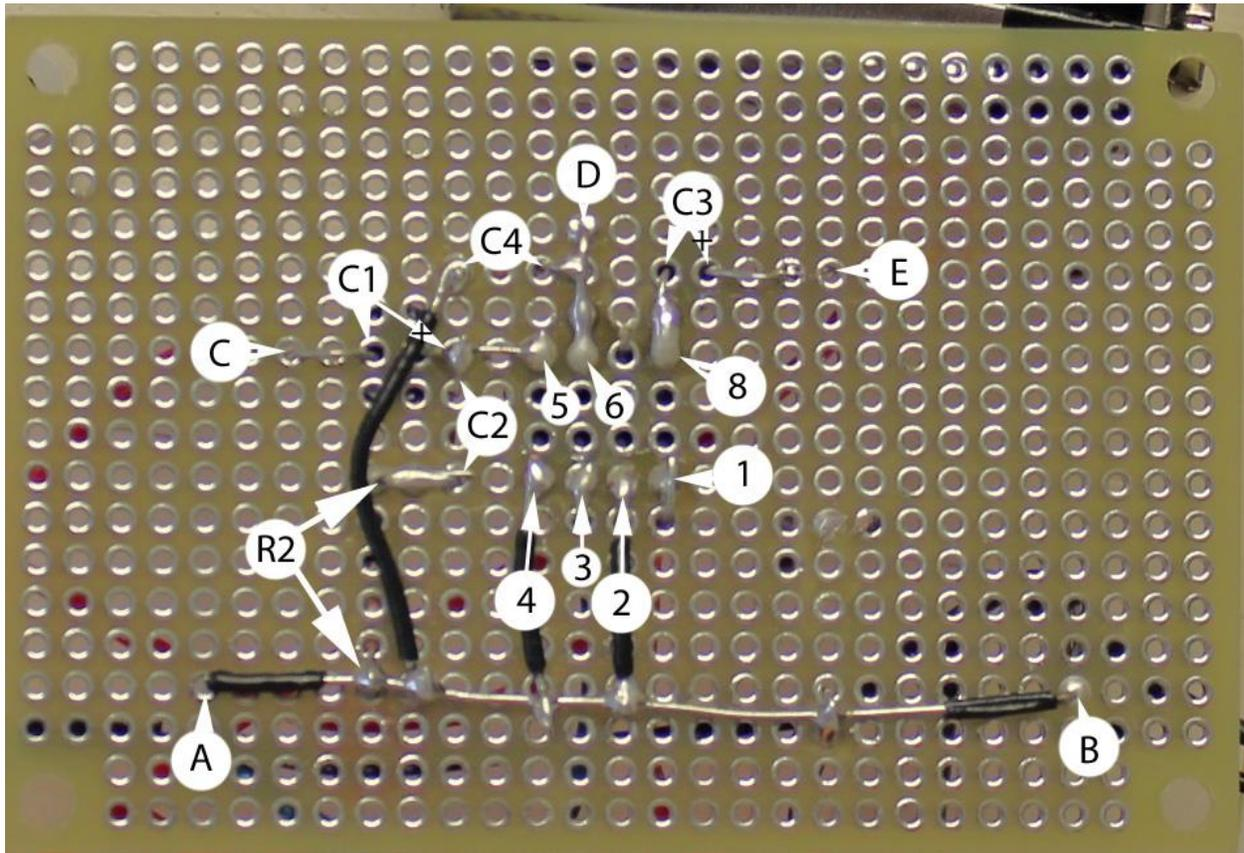
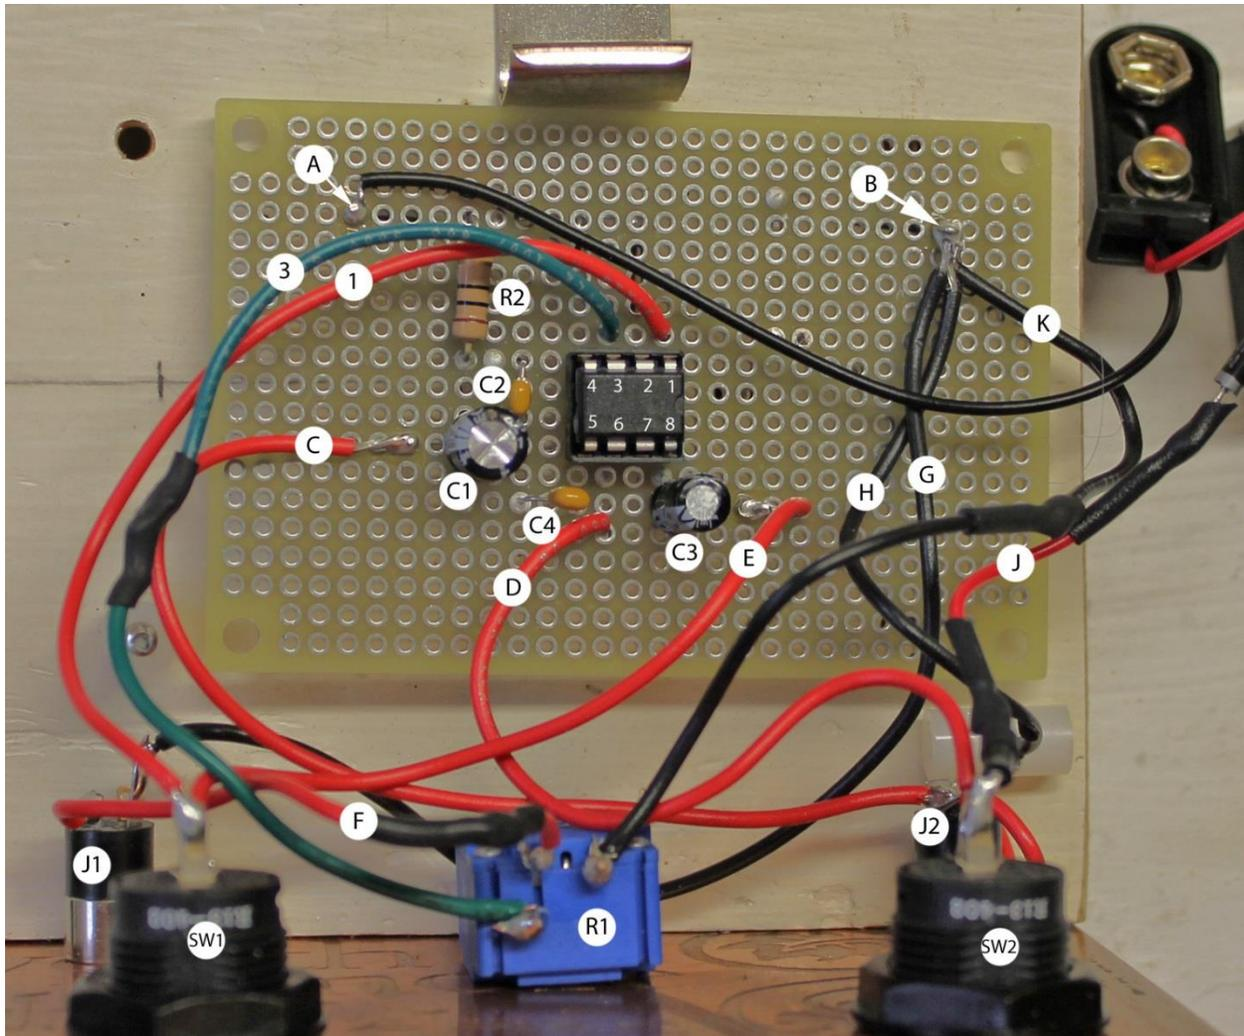

Figure 1 Bottom side of circuit board
Figure 2 Top side of circuit board
The circuit board you will be using is one half inch less in width than the board in Figures 1 and 2, but the same height. Figure 1 is a photo of the bottom side of the completed circuit board. The 8 pin IC socket is positioned in the center of the board with pins 1 and 8 on the right side and pins 4 and 5 on the left side. The top edge of the board faces toward the front of the amplifier when assembled. If you flip the board over by placing the top edge at the bottom, you would see the top of the board as seen in Figure 2. Comparing the two views, each component will be on the same side of the board. For example, capacitor C1 is on the left half of the board in both Figure 1 and Figure 2. However, a component positioned somewhere on the top half of the board in the bottom view will be positioned on the bottom half in the top view. And a component positioned somewhere on the bottom half of the board in the bottom view will be positioned in the top half in the top view. For example, capacitor C4 is on the top half in Figure 1 and on the bottom half in Figure 2. While you can't see the components from the bottom view, you can see their wires. The labels for the components in Figure 1 have arrows pointing to the wires of the components. For components with polarity, C1 and C3, the arrow pointing to the positive wire is labeled with a positive sign (+).
1. Insert the 8 pin IC socket into the center of the board as seen in Figure 2. Figure 2 also shows the IC chip (LM386) inserted in the socket, but you won't insert the chip until you are finished assembling the circuit board. The notch of the socket should be facing toward the right (pins 1 and 8 are on the right side). While holding the socket firmly on the board, turn the board over and bend the pins outward with a small screw driver to affix the socket to the board (to keep it from falling off).
3. Bend the bare ends of the wire you just prepared and insert the ends through the board from the bottom side (see points A and B in Figure 1). This wire will serve as the negative power bus. The short pieces of insulation are there to remind you that this wire is the negative bus. Notice that most of this wire is bare on the bottom side, so that you can make connections to it. The ends of the wire protrude through the board to the top side. Later, you will connect point A on
the top side to the negative wire of the battery and at point B you will connect three wires for additional negative bus connections (see Figure 2).
4. Prepare black wires (solid, 22 gauge) and connect from the negative power bus to pins 2 and 4 of the IC socket as seen in Figure 1.
5. Cut a 4 inch piece of red wire (stranded, 22 gauge). Strip off about 3/8 inch of insulation from one end. Twist the strands of the bare end and lightly coat with solder to prevent fraying (too much solder will make the wire too large to fit through a board hole). This will be the wire labeled "D" in Figure 2. Insert the stripped end of the wire through the top of the board in the position seen in Figure 2. Turn the board over and bend the bare end of wire "D" over so that it touches pin 6 of the IC socket. Trim any excess wire and solder.
6. Insert capacitor C4 through the top of the board as seen in Figure 2. Turn the board over. Bend the C4 wire closest to wire "D" so that it touches wire "D". Trim any excess and solder the wire of C4 to wire "D".
8. Insert capacitor C1 through the top of the board as seen in Figure 2. The negative wire should be to the left. Turn the board over. Bend the positive wire over to connect with pin 5 of the IC socket (the positive wire is labeled with a [+] in Figure 1). Trim any excess wire and solder the positive wire of C1 to pin 5.
10. Cut a 5 1/4 inch piece of red wire (stranded, 22 gauge). This will be the wire labeled "C" in Figure 2. Strip about 1/4 inch of insulation off one end of the wire and twist the strands to keep them together. Bend the wire around the end of the negative wire of capacitor C1 on the top side of the board as seen in Figure 2 and solder in place.
11. Insert capacitor C2 through the top of the board as seen in Figure 2. Turn the board over. Connect the top wire of C2 (Figure 1) to the wire that connects to pin 5 of the IC socket and solder.
12. Bend the other wire of C2 over to the left (the one closer to the bottom of the board in Figure 1).
13. Insert resistor R2 into the board as seen in Figure 2. Turn the board over. Bend the top wire of R2 over to the right to connect with the unsoldered wire of C2 and then solder R2 to C2.
14. Solder the free end of R2 to the negative power bus as seen in Figure 1.
15. Insert the capacitor C3 through the top of the board as seen in Figure 2. The negative wire should be toward the left. Turn the board over. Bend the negative wire over to touch pin 8 of the IC socket. Trim any excess wire and solder the negative wire of C3 to pin 8 (Figure 1).
16. Bend the positive wire of C3 into a U-shape and insert it back into the board so that its end is now on the top side of the board (point E in Figure 1).
17. Cut a 4 inch piece of red wire (stranded, 22 gauge) and strip 1/4 inch of insulation off one end. Twist the strands of the wire to keep them together. This will be the wire labeled "E" in Figure 2. Wrap wire "E" around the positive wire of C3 on the top side of the board and solder (Figure 2).
18. Cut a 4 1/2 inch piece of red wire (stranded, 22 gauge) and strip 1/4 inch of insulation off one end. This will be the wire labeled "1" in Figure 2. Twist the strands on the end of the wire and lightly
19. Cut a 5 inch piece of green wire (stranded, 22 gauge) and strip $\frac{1}{4}$ inch of insulation off one end. This will be the wire labeled "3" in Figure 2. Twist the strands on the end of the wire and lightly coat with solder. Insert the wire through the top of the board next to pin 3 of the IC socket. Turn the board over. Bend the wire over to touch pin 3 of the IC socket. Trim any excess wire and solder wire to pin 3.
20. Bend the stripped end of the black battery wire around the wire at point A on the top side of the board and solder (Figure 2). This connects the negative side of the battery to the negative power bus on the board.
21. Prepare three black wires (stranded, 22 gauge) as follows: Wire "K" 4 inches long, Wire "G" 6 inches long and Wire "H" 3 $\frac{1}{2}$ inches long (Figure 2). Strip $\frac{1}{4}$ inch of insulation off one end of each wire, twist the ends to prevent fraying and solder these three wires to the wire on the top side of the board at point B.
24. You are now ready to connect the wires from the circuit board to their proper locations on the components mounted on the front panel. The two toggle switches (SW1 and SW2) seen in Figure 2 are not the same style as the ones you will use, but have the same function (single pole, single throw switches – function as on/off switches). SW2 is the power switch, which connects power from the 9 volt battery to the circuit board. SW1 is a gain switch. When SW1 is on (closed) the amplification factor at maximum volume setting is 200. When SW1 is off (open), the amplification factor is 20 at maximum volume setting. This allows you to select from two different ranges of amplification. R1 is the potentiometer (adjustable resistor) used to adjust the volume of the sound output. J1 is the input jack and J2 is the output jack for the sound signal. You will connect your crystal radio to J1 and your headphones to J2. The jacks seen in Figure 2 are not the same as the ones you will use. In order to save some money, you will use some used jacks. The used jacks already have some wires connected to them, so you will connect those wires to the proper wires from the circuit board.
25. Strip $\frac{1}{4}$ inch of insulation from the free end of wire "1" (Figure 2). Twist the end to prevent fraying. Connect and solder this wire to one of the lugs of SW1.
26. Strip $\frac{1}{4}$ inch of insulation from the free end of wire "E" (Figure 2). Twist the end to prevent fraying. Connect and solder this wire to the other lug of SW1.
27. Strip $\frac{1}{4}$ inch of insulation from the free end of wire "G" (Figure 2). Twist the end to prevent fraying. Slip a piece of heat shrink tubing over the wire. Connect and solder this wire to the bare wire of J1.
28. Cut a 3 inch piece of red wire (stranded, 22 gauge) and strip $\frac{1}{4}$ inch of insulation from each end. Twist the strands on each end to keep them from fraying. This will be wire "F" in Figure 2. Solder one end to the red wire of J1. Place a piece of heat shrink tubing on the wire. Then solder the other end to the proper lug of R1 as seen in Figure 2. Now slide the two heat shrink
29. Strip $\frac{1}{4}$ inch of insulation from the free end of wire "3" (Figure 2). Twist the strands to prevent fraying. Connect and solder this wire to the proper lug of R1.
30. Strip $\frac{1}{4}$ inch of insulation from the free end of wire "K" (Figure 2). Twist the strands to prevent fraying. Connect and solder this wire to the proper lug of R1.
31. Strip $\frac{1}{4}$ inch of insulation from the free end of wire "C" (Figure 2). Twist the strands to prevent fraying. Slide a piece of heat shrink tubing over the wire. Connect and solder this wire to both black and red wires of J2.
32. Strip $\frac{1}{4}$ inch of insulation from the free end of wire "H" (Figure 2). Twist the strands to prevent fraying. Slide a piece of heat shrink tubing over the wire. Connect and solder this wire to the bare wire of J2. Now slide the two heat shrink tubing pieces to cover the two solder joints of J2. Ask an adult to help you heat the tubing to finish the job.
33. Strip $\frac{1}{4}$ inch of insulation from the free end of wire "D" (Figure 2). Twist the strands to prevent fraying. Connect and solder this wire to one of the lugs of SW2.